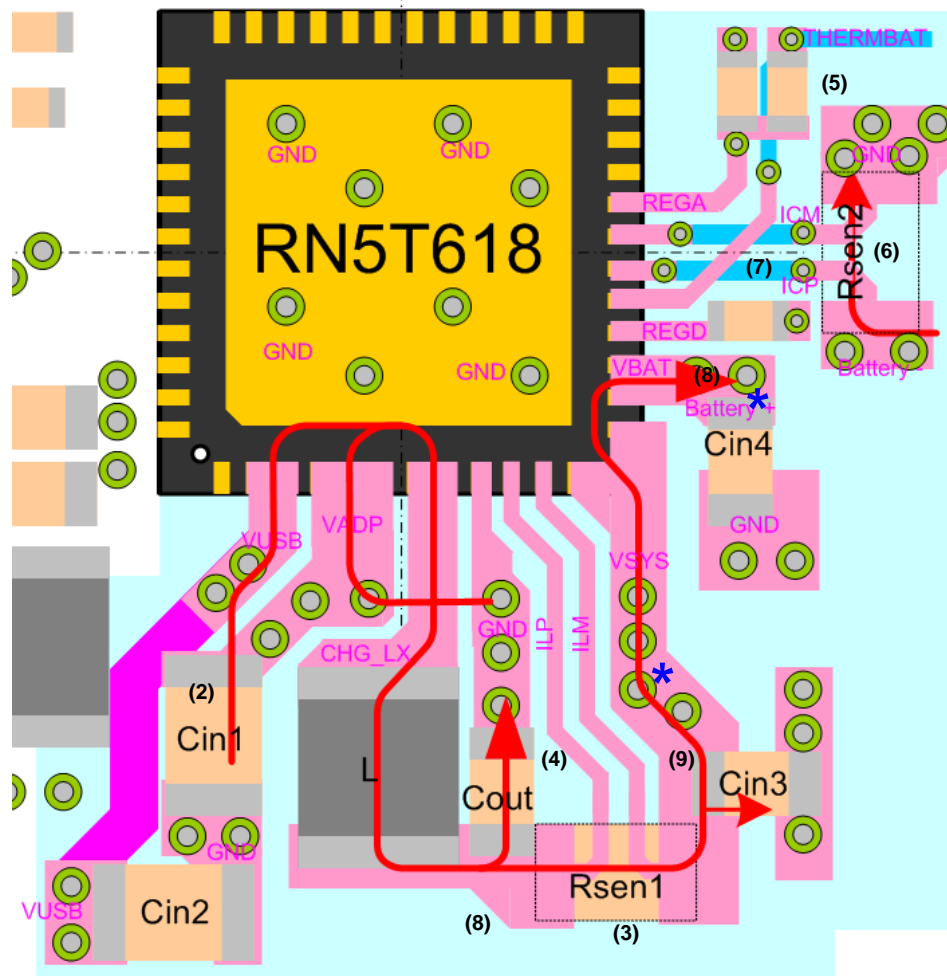

Fig. 1-4: Example of Charger Block Pattern (Top Layer)
- (1) Place the parts to minimize the switching current loop. (Figure 1-4: red line)
- (2) Place "VADP" capacitor as close as possible to RN5T618, and route the line to RN5T618 short and widely in order to minimize resistance.
- (3) Because " R_{SEN1} " is the resistance which fixes accuracy of the current, use the high accuracy it as possible. (Refer to the "Recommended External Parts List" on P.8)